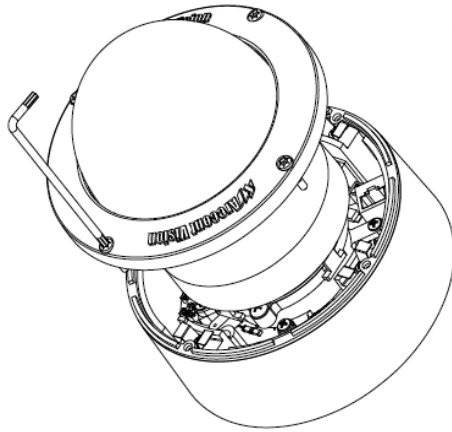

Figure 1
2. Use the supplied security L-key, to loosen the four (4) tamper resistant screws securing the dome cover as shown in Figure 1. Do not remove screws from the dome cover.